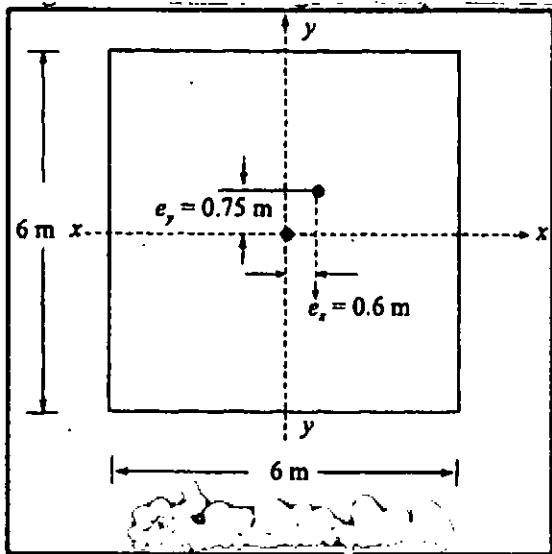

Fig. 3 For Q. No. 3(a)
3. (a) Figure shown below (Fig. 3) give the plan of a footing subjected to eccentric load with two-way eccentricity. The footing is founded at a depth 3 m below the ground surface. Given, $e_x = 0.60$ m and $e_y = 0.75$ m, determine Q_{ult} in kN. The soil properties are $c = 0$, $N_{cor} = 20$, $\gamma = 18.5$ kN/m³. The soil is medium dense sand. Use $N_y = 34$ and $N_q = 33$ (Meyerhof; for $\phi = 35^\circ$); Hansen's shape and depth factors. (20)